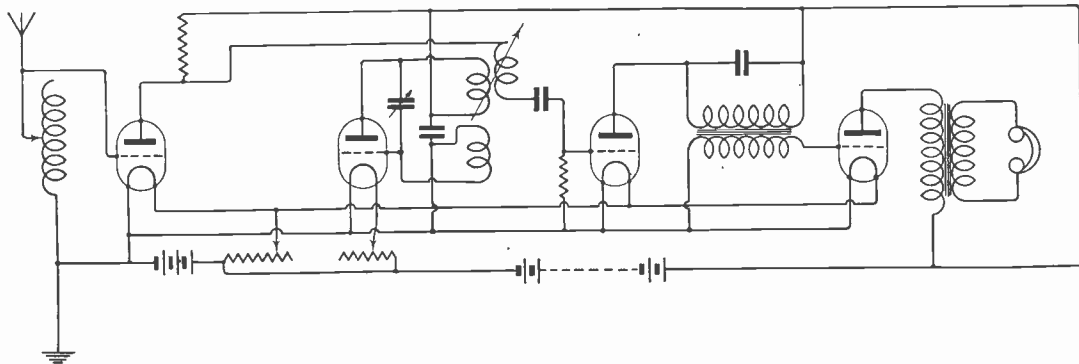

Fig. 1.
**S.B.P.B. (Highgate)** asks (1) For a four valve set, three receiving and one separate heterodyning valve. (2) If loose coupler coils may be used for the heterodyne coils. (3) Whether to use R or B valves.
(1) Diagram given in Fig. 1.
(2) Yes, but a considerable saving in space is made if fine wire basket coils are used. You will notice a small coil in the earth lead coupling into the oscillator inductance.
(3) Use an R valve.